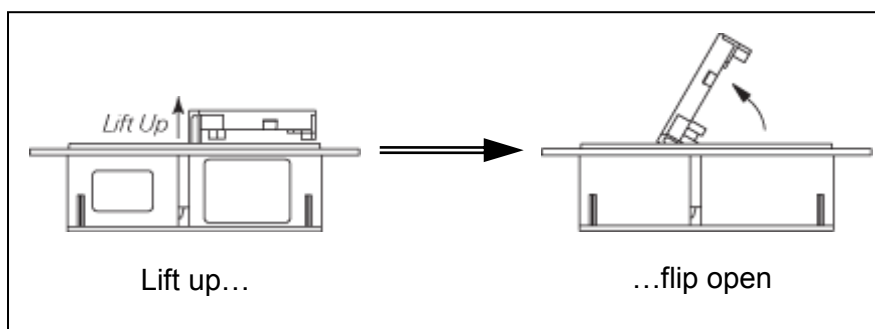

Figure 2-3: Lift and Pivot to Open the Cover
4. Gently lift UP on the door until it lifts up approximately 1/4" (see Figure 2-3).
5. Once lifted, the door will pivot on its hinges and expose the fuse holder and voltage selection card (see Figure 2-3).